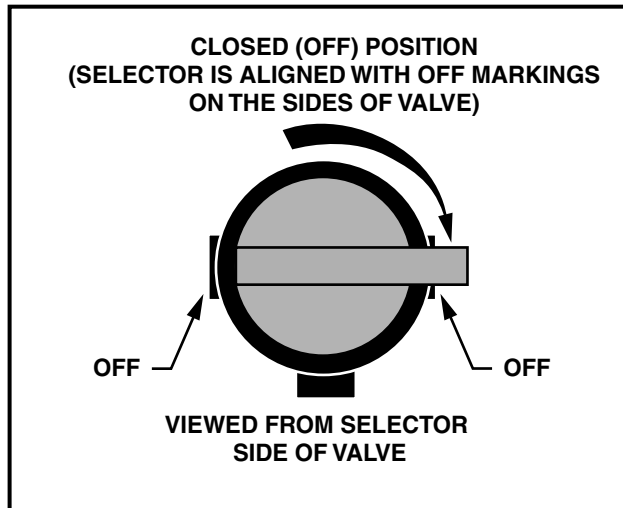

Figure 12 Fuel Shut-off Valve – Closed Position
- Turn fuel shut-off valve to closed (OFF) position (Figure 12, Page 23).
- 4.1. Place the Forward/Reverse handle in the NEUTRAL position. Turn the fuel shut-off valve to the closed (OFF) position (**Figure 12, Page 23**) and run the engine until fuel remaining in the carburetor and fuel lines is depleted and the engine stalls.